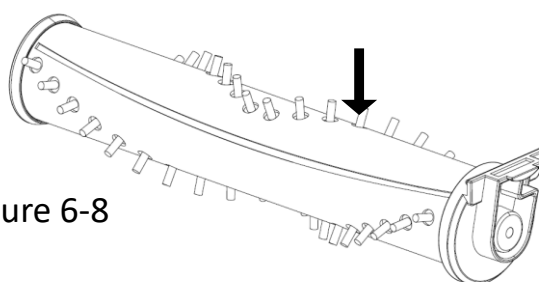

Figure 6-8
6.6 To remove hair from the brush roll, run a razor blade down the groove to cut the hair then pull it off, then re-insert it back in the power nozzle. See Figure 6-8.